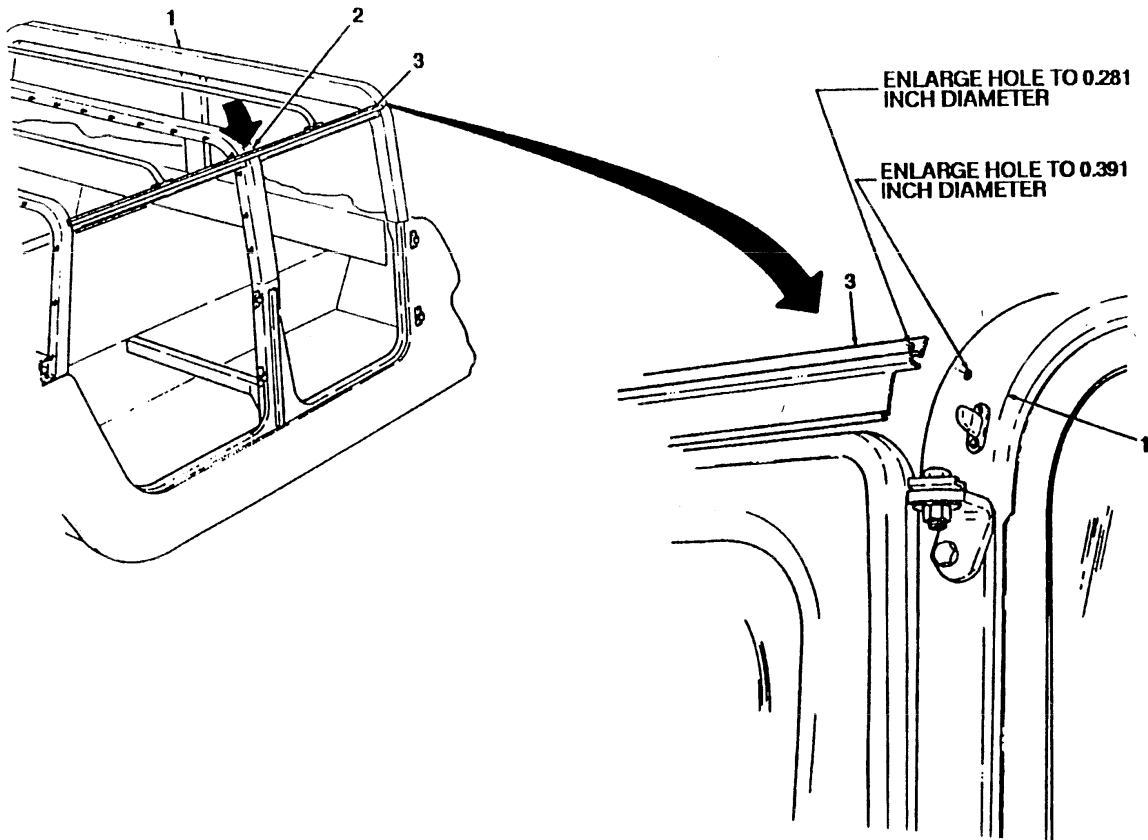

FIGURE 3-15
4. Enlarge hole in A-pillar (1) or B-pillar (2) to 0.391-inch diameter. (see figure 3-15)
5. Enlarge hole in horizontal rail (3) to 0.281-inch diameter.